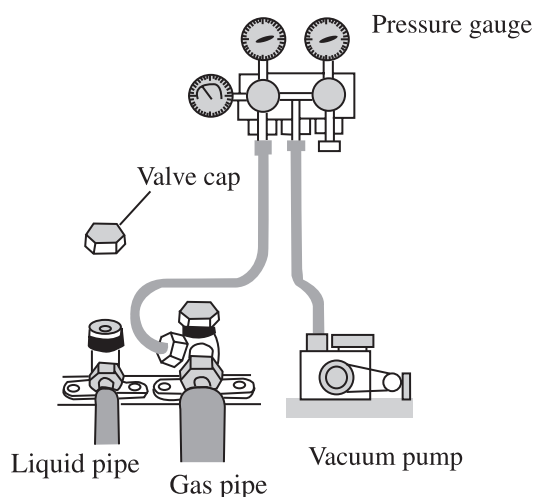

Fig.8
- 10.If possible, discharge air and moisture remaining in the refrigerant system with a vacuum pump. (shown in Fig.8)